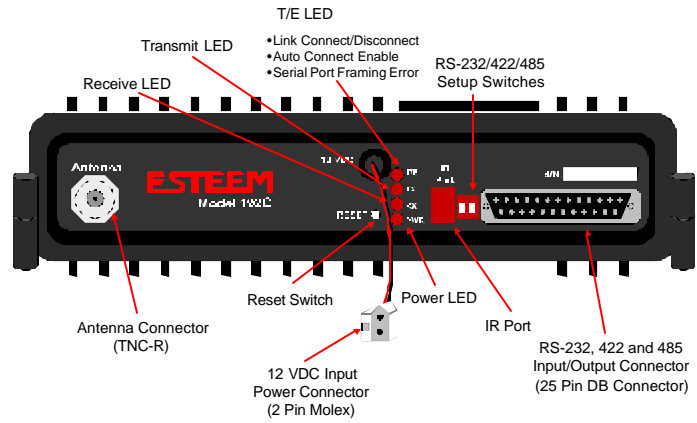

Figure 7: ESTeem Front Panel
4. Press the Front Panel Description button and a window containing the ESTeem Model 192 front panel will appear (Figure 7). Press any one of the buttons for a complete description of the item's function. For example, press the Power LED button and the description of the power LED and its use will be displayed. Press Go To Step 3 button to proceed.